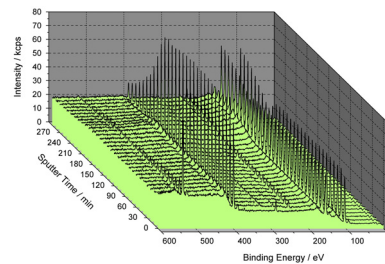

Fig. 3. Plot 3D-Waterfall -45°: surveys SiNxOy
3. Plot 3D-Waterfall -45°: Plot of spectra (see Fig. 3) or sum curves with -45° viewing,